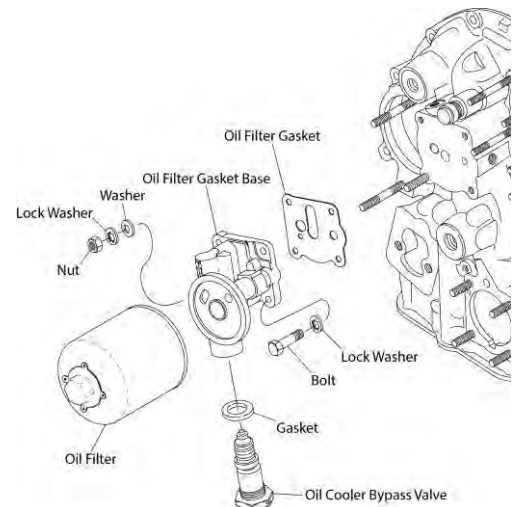

Figure 11
- B. Remove the hardware fasteners (nut, bolts, washers, and lock washers) from the oil filter base (Figure 11). Discard the lock washers.
- C. Remove the oil filter base (Figure 11).
- A. Mount the oil filter base with a new gasket on the mounting pad where shown in Figure 11 with three bolts, flat washers, and new lock washers.